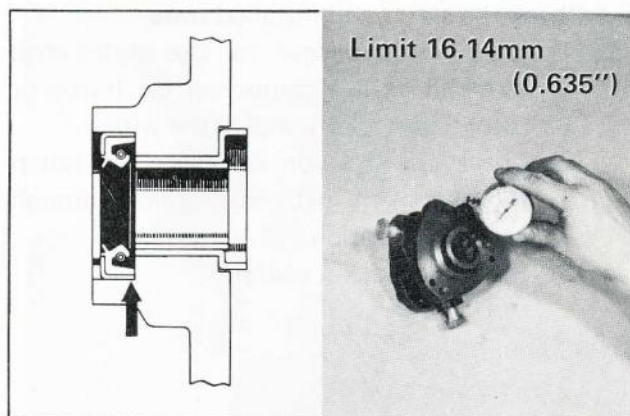

Fig. 6-83 Oil Seal & Bearing Inspection
2. The vacuum pump oil seal should be inserted in fully as shown in Fig. 6-83.